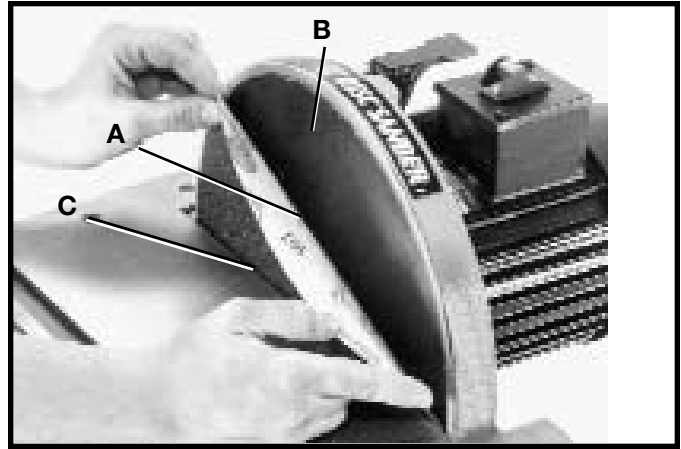

Fig. 21
1. To remove abrasive disc (A) Fig. 21, simply peel old abrasive disc from machine as shown.
2. To install a new abrasive disc, make sure the disc plate (B) Fig. 21, is clean, dry, and free from any oil or grease.
4. Slide new abrasive disc between the table (C) Fig. 21, and disc plate (B) and press the top portion of abrasive disc (A) in position.
5. Manually rotate disc plate (B) Fig. 21, one-half turn and firmly press onto abrasive disc plate (B).
6. **⚠WARNING: MAKE CERTAIN THE ABRASIVE DISC (A) FIG. 21, IS SECURELY IN POSITION BEFORE CONNECTING MACHINE TO A POWER SOURCE.**